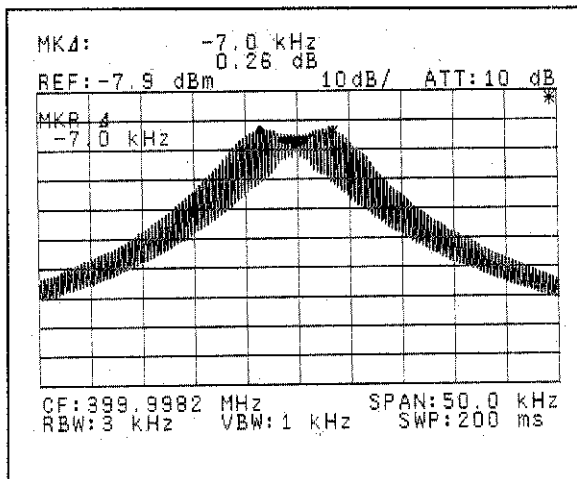

Figure 6-27 FM signal with small  $\Delta f_{\text{peak}}$
- ③ Finally, move the  $\Delta$ marker to the spectrum "shoulder" (see Figures 6-27 and 6-28). Call the  $\Delta$ marker frequency  $\Delta f_{\text{pp}}$ . Then  $\Delta f_{\text{peak}}$  and modulation index  $m$  can be found from: